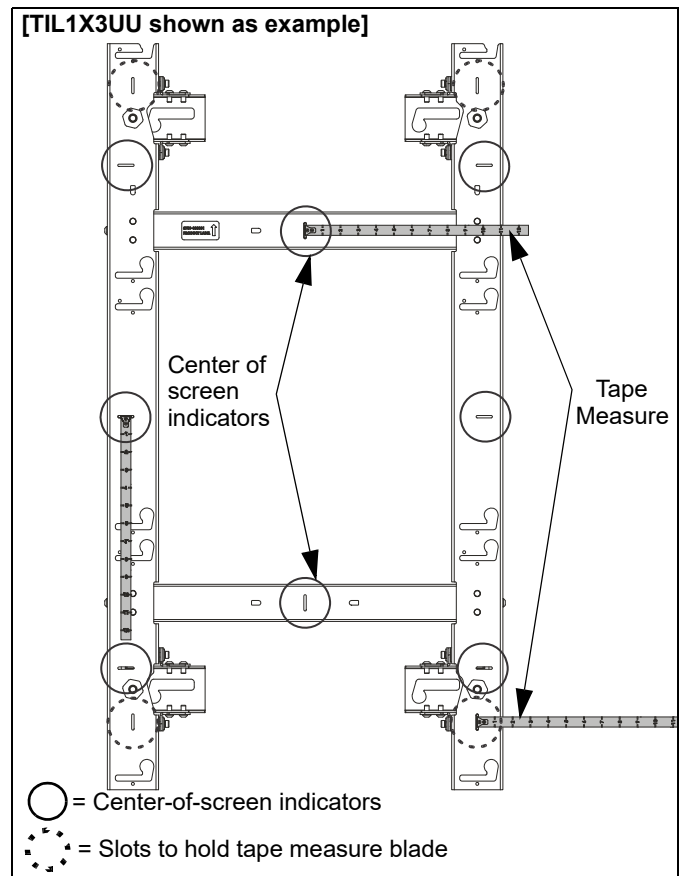

Figure 1
**Just a tip** - The horizontal slots located along the vertical mount pieces (and vertical slots located along the horizontal mount pieces) are the center-of-screen indicators to illustrate where the center of each LED screen will be located, and can be used to hold a tape measure tab while measuring. (See Figure 1)